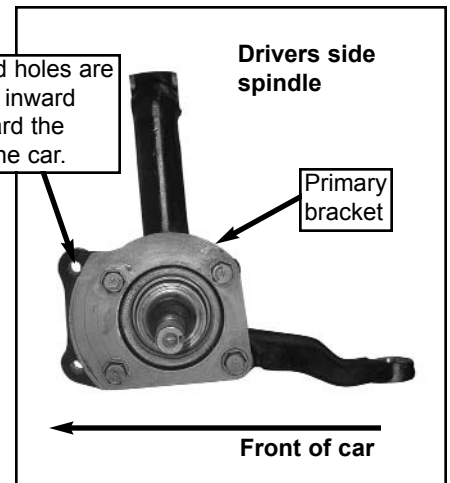

Figure 2
1. Starting with a clean spindle, install the supplied caliper brackets to the front of the spindle. The two threaded holes should mount inward and toward the front of the car (As shown in Figure 2).